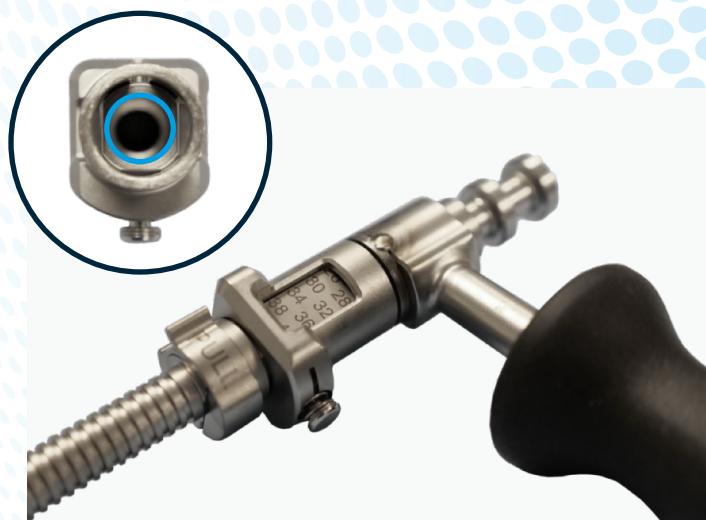

Figure 60: Top view of Depth Gauge: Lordotic Inserter seats into the inner ring and so therefore moves along with the Depth Gauge as it is being adjusted.
**Note:** Unlike how the standard OptiMesh Inserter seats on the Access Portal, the Lordotic Inserter seats in the adjustable stop of the Access Portal. (Fig. 60) Therefore, the adjustable stop needs to be correctly set to the predetermined drill depth to ensure proper placement of the OptiMesh Align DCE Interbody.